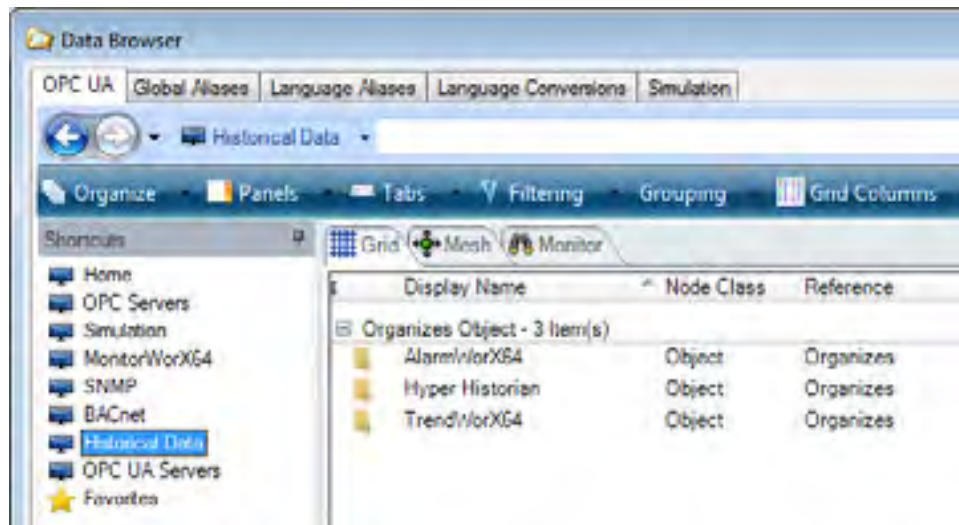

Figure L1.6 – On the OPC UA Tab, Click Historical Data
8. Next, add a Pen item by right-clicking My First Plot, then selecting Add, then Pen. On the right side of the dialog box, click the Data Source ellipsis button to open the Data Browser. In the Data Browser, make sure you are on the OPC UA tab and click on Historical Data on the left under Shortcuts; you should see something like the window shown in Figure L1.6.